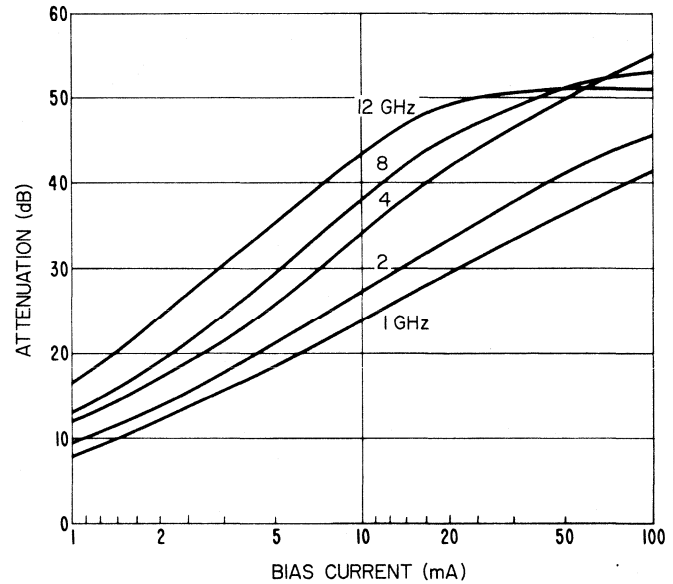

Figure 3. Typical Attenuation vs. Bias Current
**Attenuation.** The HPA 3530 switch exhibits no fine grain attenuation structure. Typical variation of attenuation as a function of bias current, frequency and temperature are shown in Figures 3, 4, and 5.
microampere. The switch is considered to be "OFF" or blocking an RF signal when the bias voltage is negative. Under this condition the diodes are forward biased and are in a low impedance state. The individual diodes are matched and the total bias current is divided equally between them. The magnitude of the forward bias current determines the degree of attenuation provided by the switch as shown in Figure 3. Maximum attenuation, or full